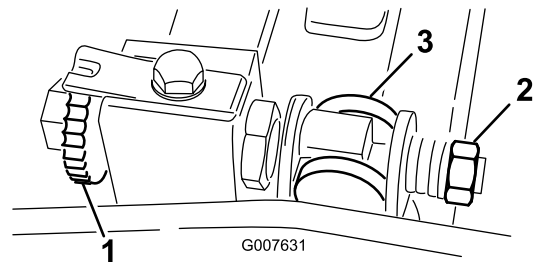

Figure 61
1. Turn the bedbar-adjuster screw counterclockwise to back the bedknife away from the reel (Figure 61).
2. Back out the spring-tension nut until the washer is no longer tensioned against the bedbar (Figure 61).